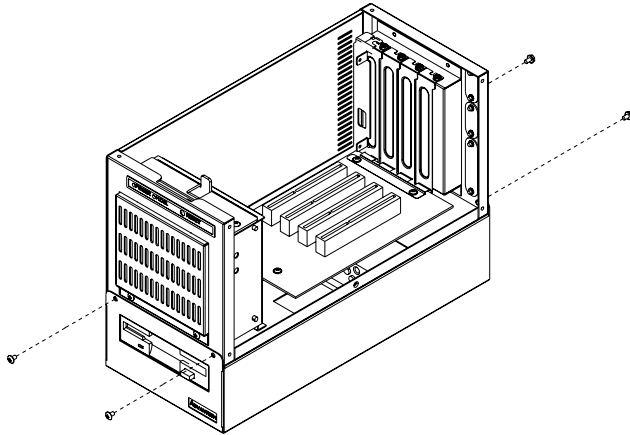

Figure 2.4: Removing the upper cage
2. Detach the four screws located on the front and rear of the upper cage chassis (refer to Figure 2.4).